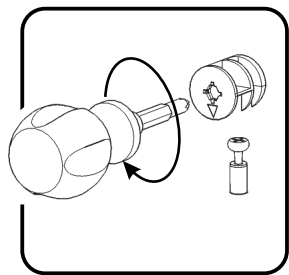

Figure 3
Attach Front Panel (D) and Back Panel (X) to Side Panel (B) with Cam Locks and Head Cap Bolt (short). (See Figure 3)